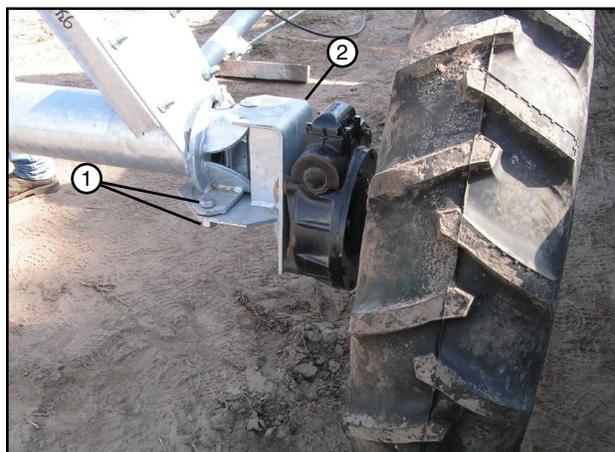

Figure 34-2 Towing Position
8. Secure gear box mount in the tow position with the original hardware. See figure 34-2.